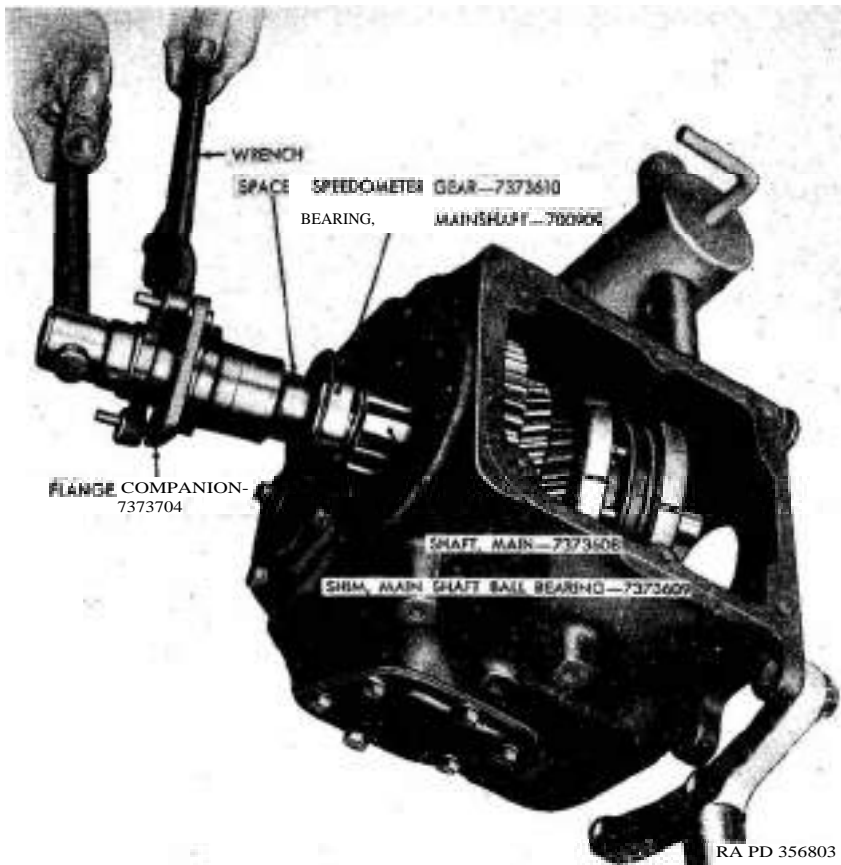

Figure 116. Installing main shaft ball bearing and holding companion flange with wrench.
flange plain washer (NN), and companion flange nut (PP). Hold companion flange and tighten companion flange nut (*fig. 116*) until ball bearing is firmly seated against shim and shaft shoulder.